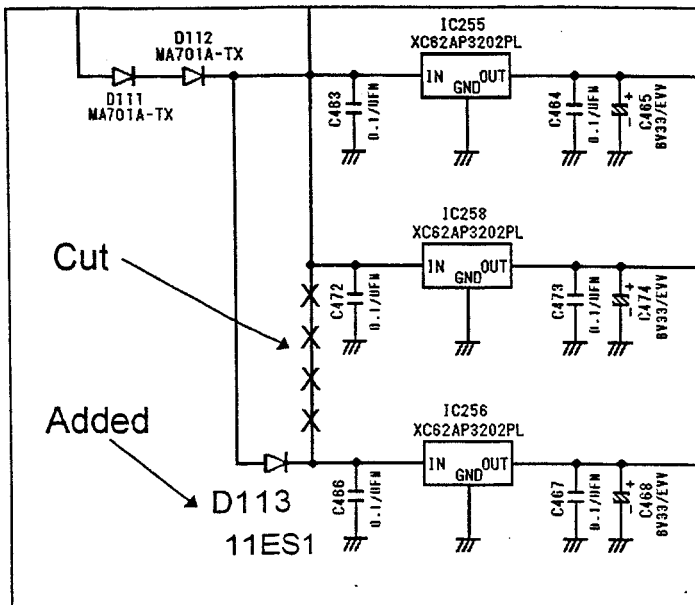

Fig. 1 Page 2-107 (E-3) - AJ-D750
- 1). Cut the foil between terminal I of IC256 and terminal O of D112 on the foil side as shown in figures 1 and 2.
- 2). Add a diode D113 (11ES1) between terminal I of IC254 (anode side) and terminal I of IC256 (cathode side) on the foil side as shown in figures 1 and 3.
- 3). Cut the foil of pin #5 of IC8164 on the component side as shown in figures 1 and 2.
- 4). Connect a jumper wire between pin #12 and land of pin #5 of IC8164 on the component side as shown in figures 1 and 2.